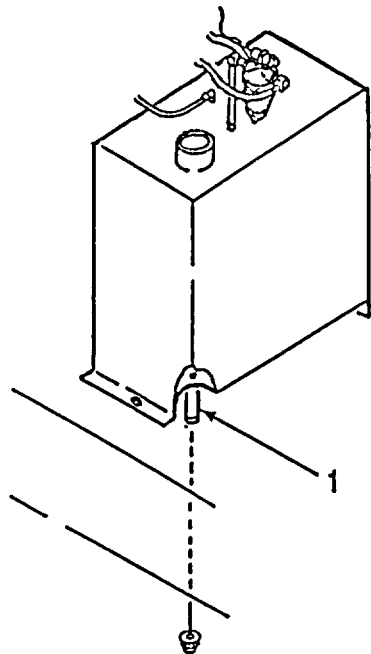

Figure 2-5. Fuel Tank Drain Line
e. Fuel Tank. (Refer to Figure 2-5).